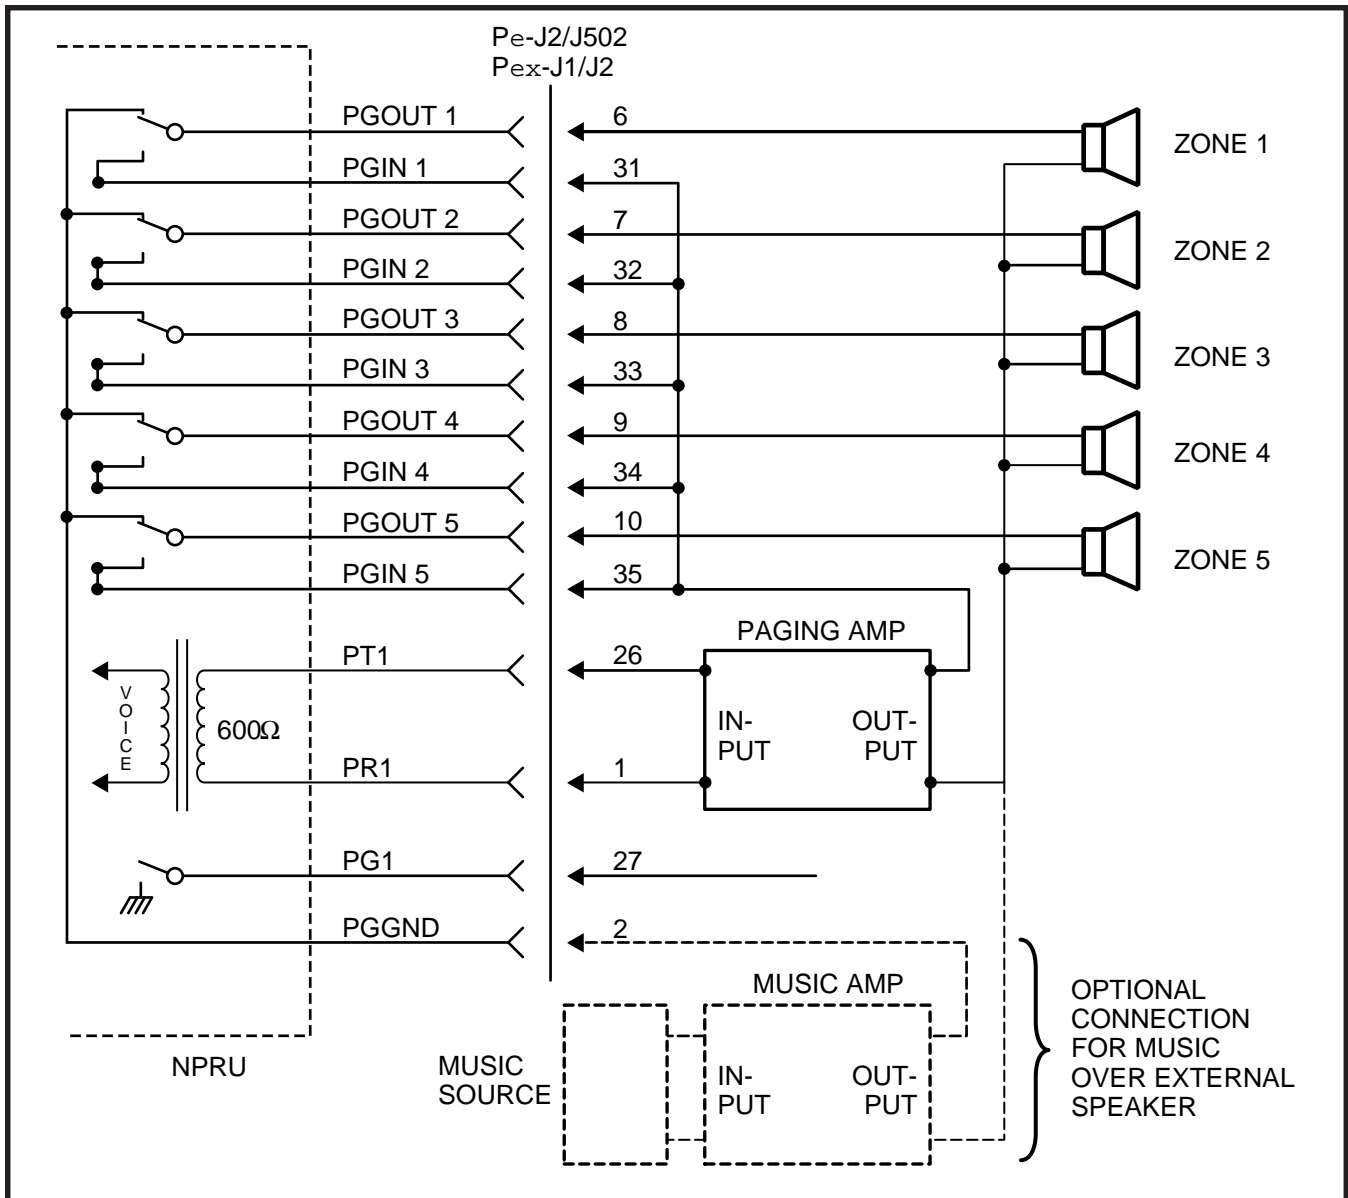

FIGURE 4-70—PAGING WITH ONE AMPLIFIER
- 1) If the music is supplied from a separate amplifier (as in Figures 4-70 and 4-71), it can be connected between the speaker common line and the **PG GND** input to the NPRU ( $\text{PERCEPTION}_{\text{e}} \text{ J2/J502}$  and pin 2 or  $\text{PERCEPTION}_{\text{ex}} \text{ J1/J2}$  and pin 2). The music will be connected to all speaker zones when no page is in progress. When a page access